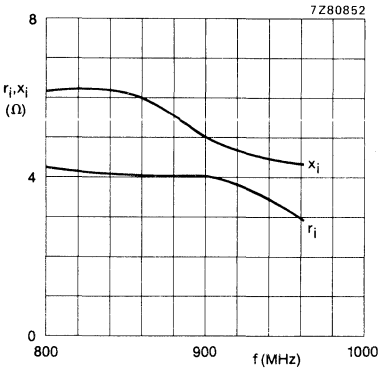

Fig. 9 Input impedance (series components).
**Conditions for Figs 9, 10 and 11:**